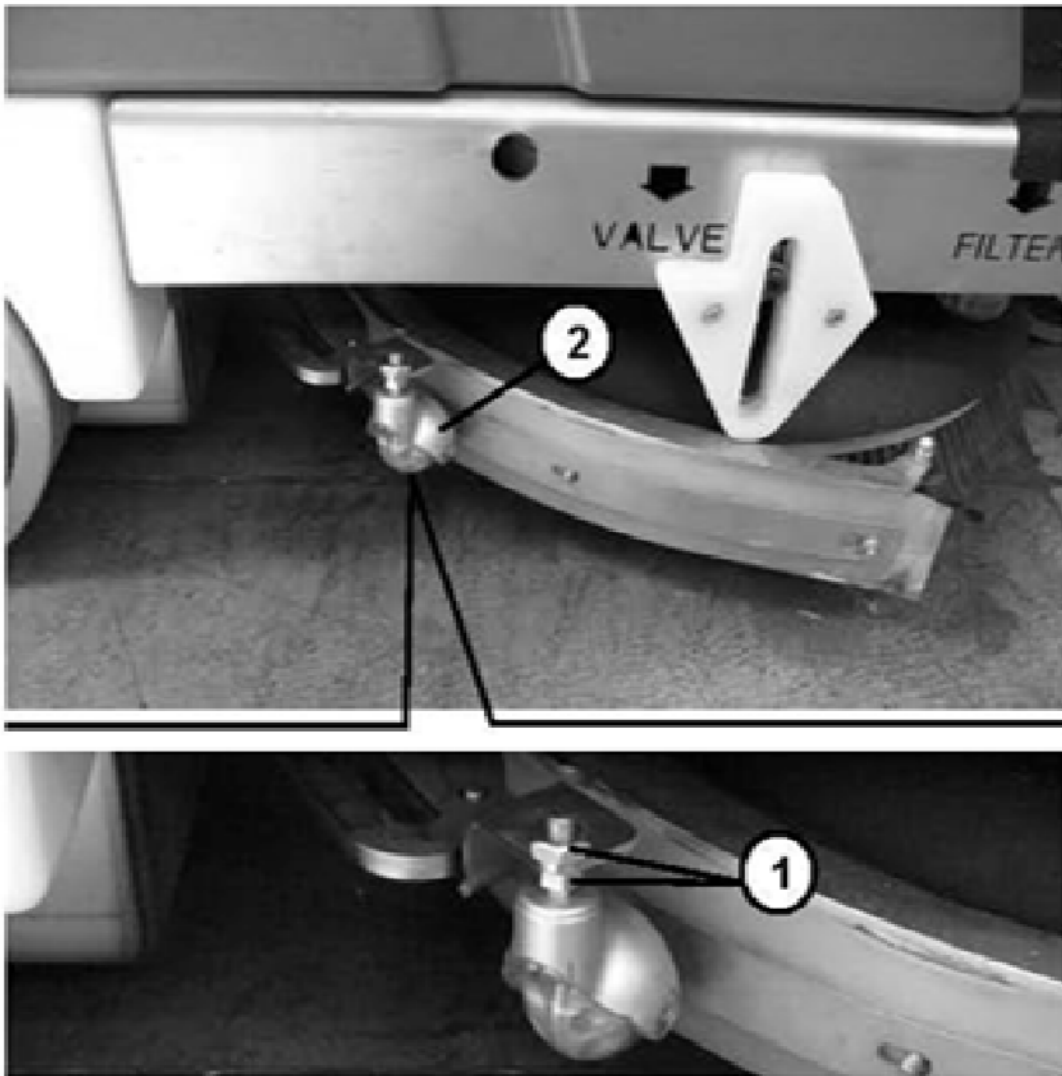

Figure 8-7
8. To adjust the height of the squeegee, loosen the nuts (1, **Figure 8-7**) and adjust the height of the right and left wheel (2).